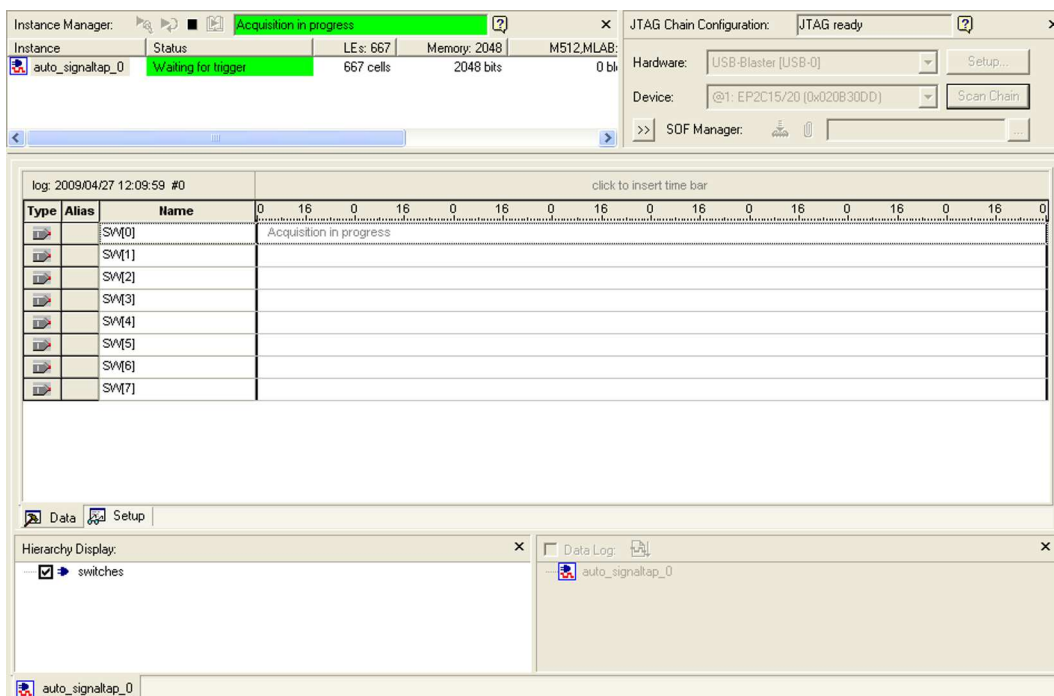

Figure 11. SignalTap II window after Run Analysis has been clicked.
- Before the SignalTap analyzer can work, we need to specify what clock is going to run the SignalTap module that will be instantiated within our design. To do this, in the Clock box of the Signal Configuration pane of the SignalTap window, click ..., which will again bring up the Node Finder window. Select List to display all the nodes that can be added as the clock, and then double-click CLOCK\_50, which results in the image shown in Figure 11. Click OK.
- In the SignalTap window, select **Processing > Run Analysis** or click the  icon. Then, click on the **Data** tab of the SignalTap II Window. You should get a screen similar to Figure 11. Note that the status column of the SignalTap II Instance Manager pane says "Waiting for trigger." This is because the trigger condition (Switch 0 being high) has not yet been met. (This is of course if Switch 0 is actually low as instructed in the previous step. If it is not, set it to low and then click Run Analysis again).